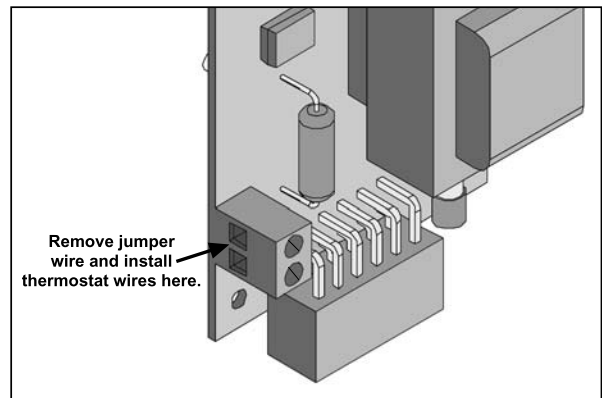

Figure 38: Thermostat wire placement.
1. Install a suitable thermostat (compatible thermostat types are Millivolt, 12 volt or 24 volt) using 18 x 2 gauge wire from the connection points on the back of the control board (see figure 38) to the thermostat.